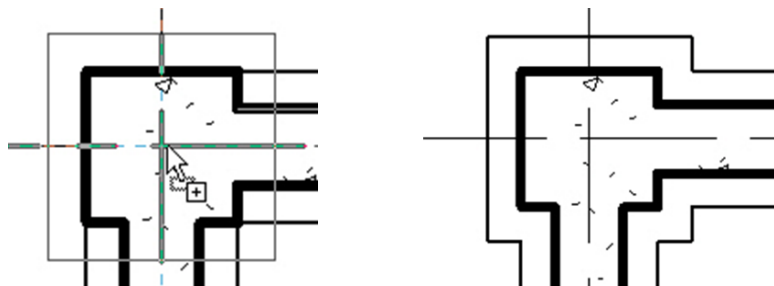

Figure 7-56
9. Zoom in and place the isolated footing underneath a pilaster. The isolated footing and wall footing automatically join together as shown in Figure 7-56.